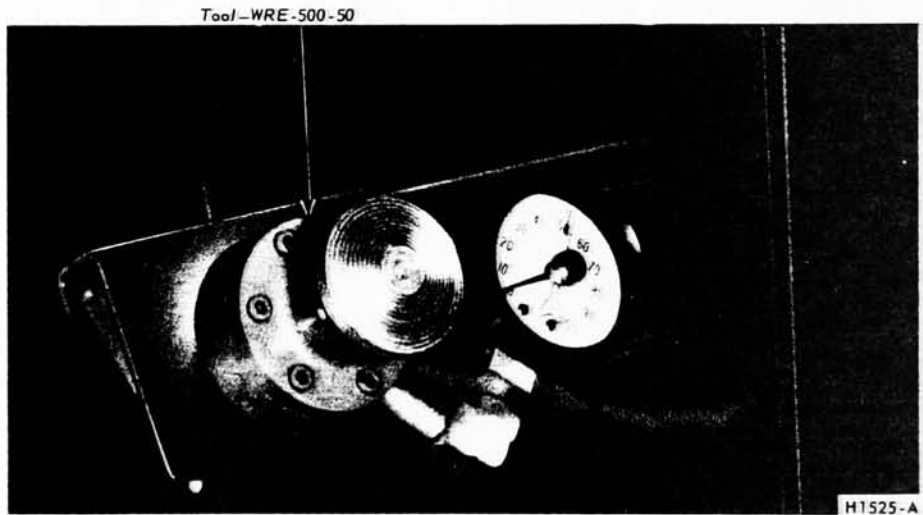

FIG. 2—Brake Pedal Pressure Gauge Installed
1. Install a Brake Pedal Effort Gauge on the brake pedal pad (Fig. 2).